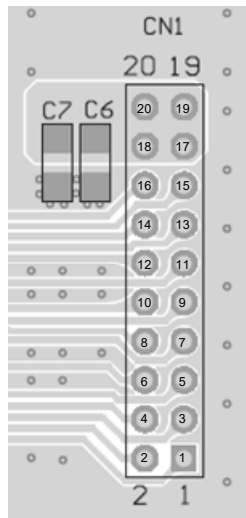
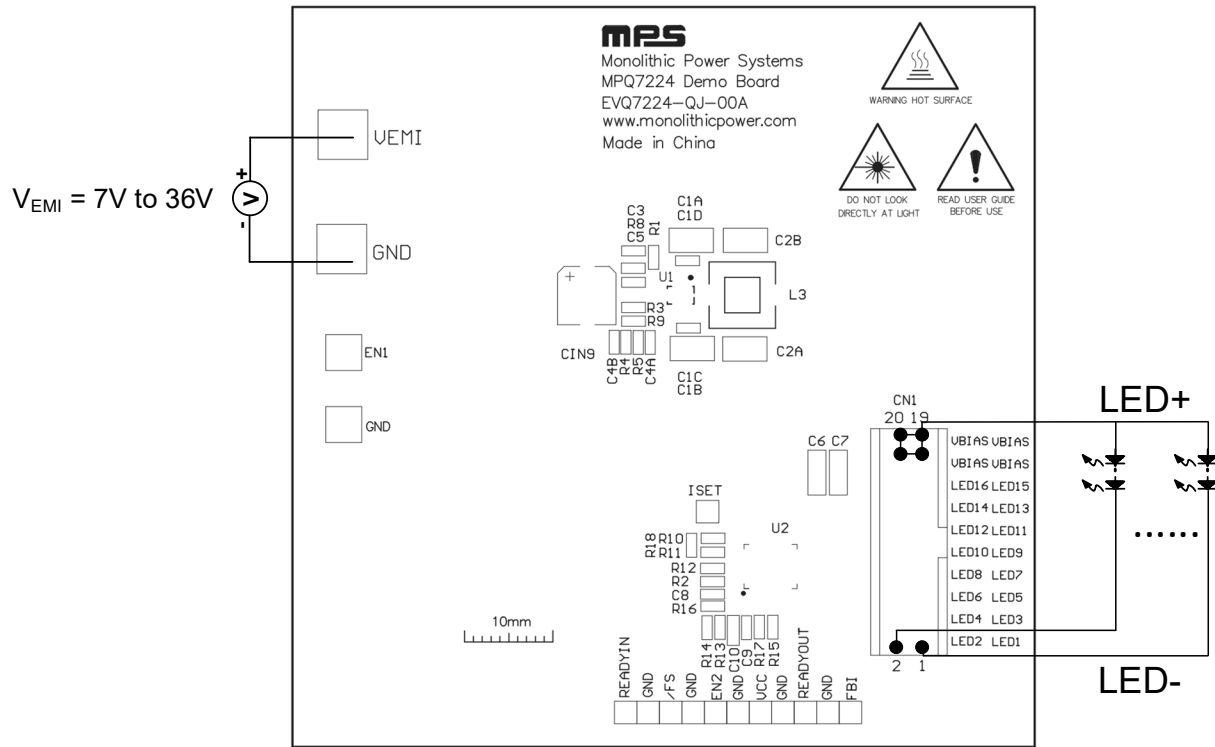

Figure 1: LED Load Connection Configuration
Figure 3: Measurement Equipment Set-Up
The EVQ7224-QJ-00A evaluation board is easy to set up and use to evaluate the performance of the MPQ7224. For proper measurement equipment set-up, refer to Figure 3 on page 5 and follow the steps below:
2. Connect an LED load anode to the LED output pad (CN1, 17–20), then connect each LED load cathode to the corresponding LED input pad (CN1, 1–16) on the evaluation board (see Figure 1 and Figure 3 on page 5).
Figure 3 shows the measurement equipment set-up.